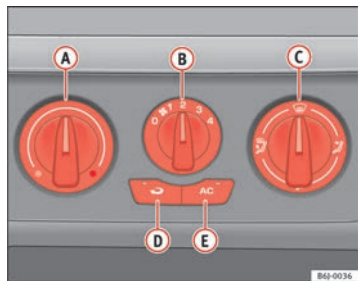

Fig. 86 Vehicle heating controls on the dash panel
- Using the controls \Rightarrow fig. 86 (A) and (C) and with the switch (B) you can adjust the temperature, the air distribution and the blower speed.
- Press the button (D) to switch air recirculation mode on or off. When the function is activated, a warning light on the button is turned on.